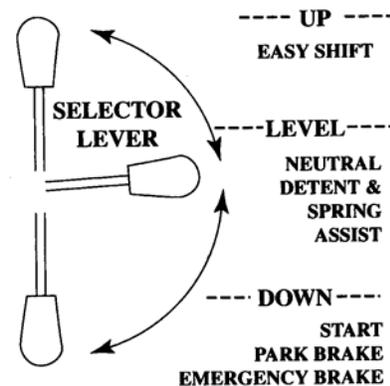

Figure 6
The right side of the dash has IMPORTANT operational and safety instructions for the three-(3) position **Control Selector** (Figure 6).